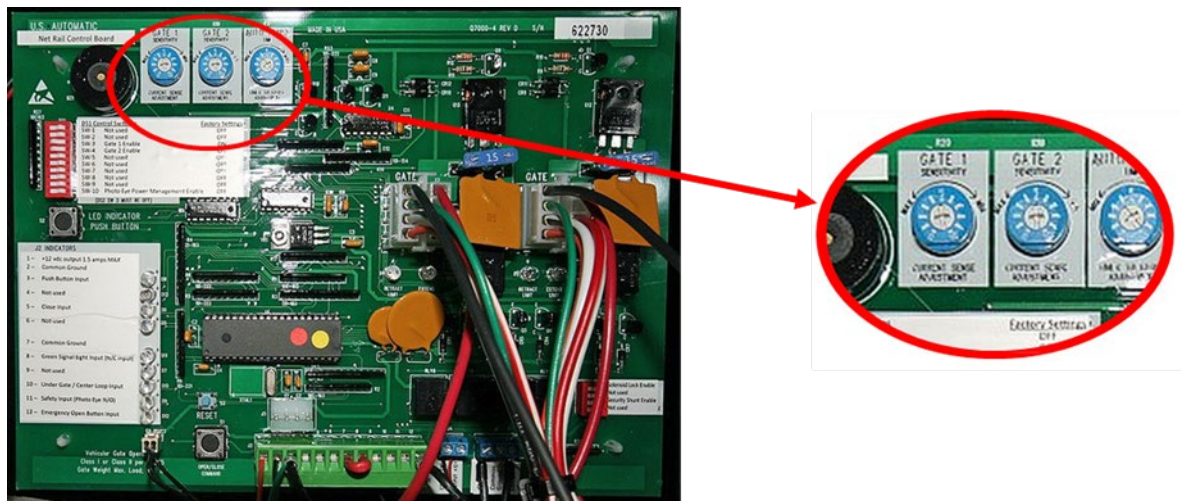

Figure 10 – NR Control Board
- 4.1 To carry out the adjustment you shall identify the correct current sensor potentiometer. These are found on the top edge of the Control Board and are marked as Gate 1 and Gate 2 (circled in Figure 10), one for each gate.